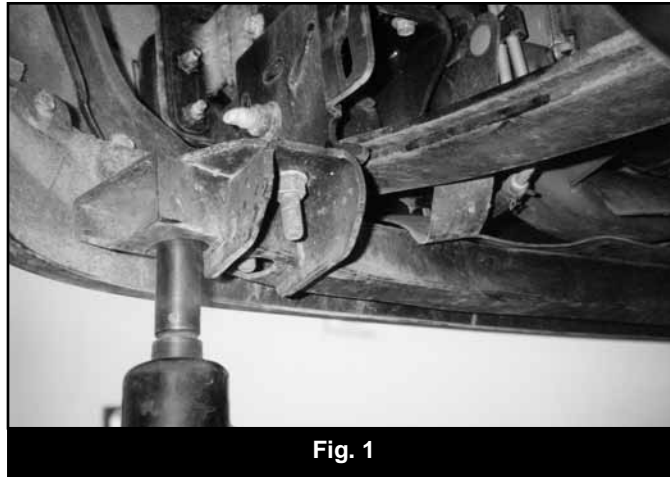

Fig. 1
2. Remove the track rod bolt on the driver side at the frame mount. This is a solid bar that runs from the axle on the passenger side (PS) to the frame on the driver side (DS).
7. **2001 models & newer only:** Remove the crossmember that runs between the frame rails right behind the lower valence of the front bumper and retain factory hardware. (Fig. 1)